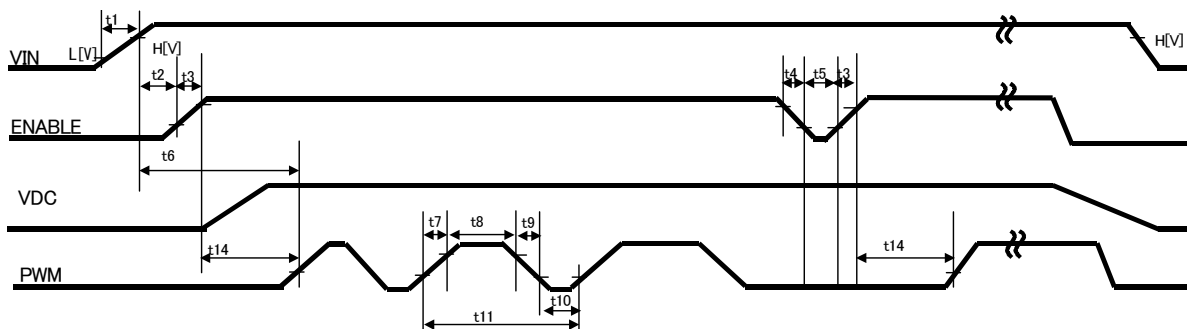

Figure 26. Input timing (after soft start)
- Please input PWM signal according to Figure 26. after soft start finishes.